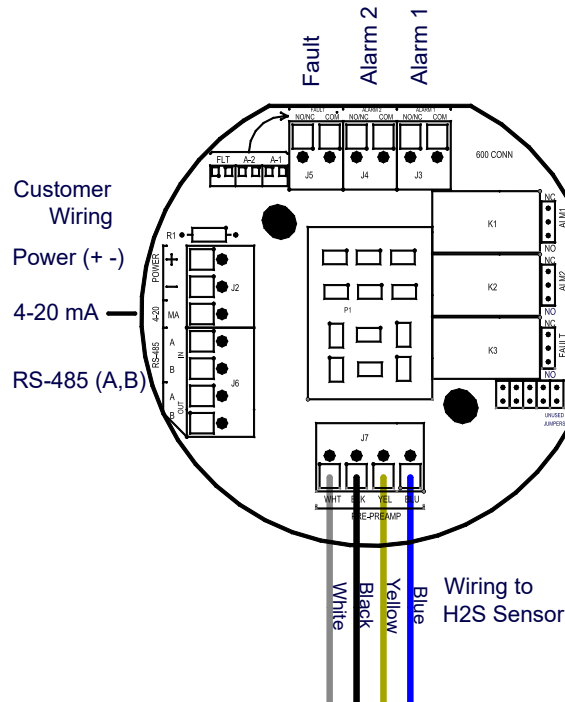

Figure 9 Sensor Connector PCB
Proper electrical installation of the gas sensor is critical for conformance to Electrical Codes and to avoid damage due to water leakage. Refer to Figure 8 and Figure 9 for proper electrical installation.
- Observing correct polarity, terminate the field wiring (DC+, DC-, MA, A, and B) to the sensor assembly wiring in accordance with the detail shown in Figure 9.